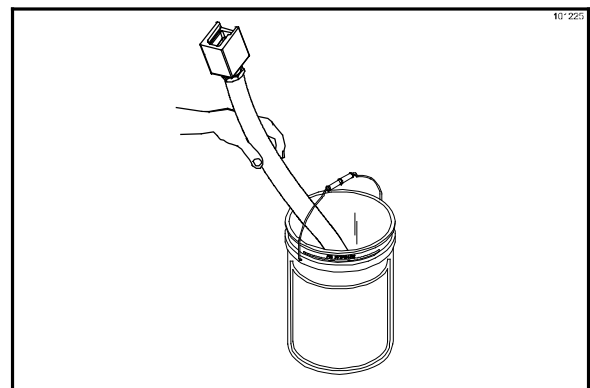

Figure 100
49. Remove the cleaning hose adaptor and place it in an empty pail. (See Figure 100.)